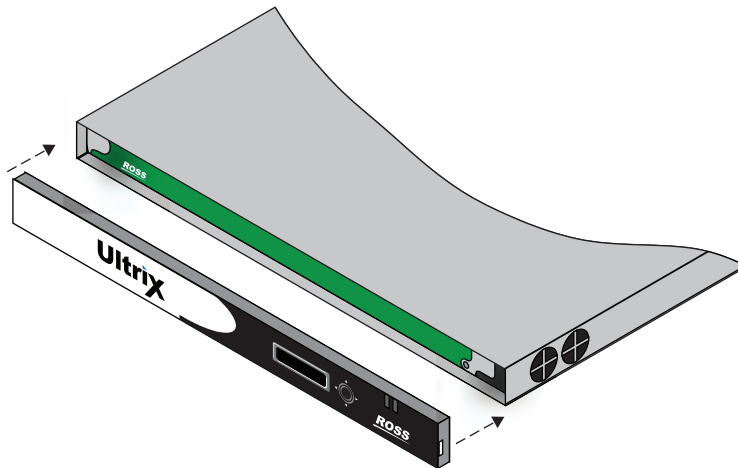

Figure 26.14 ULTRIX-NS-FR1 — Aligning the Door to the Chassis
1. Align the door to the front of the router, ensuring that the door is oriented upright, the corner with the Ultrix logo is in your left hand, and the corner with the Ross logo is in your right hand. (Figure 26.14)